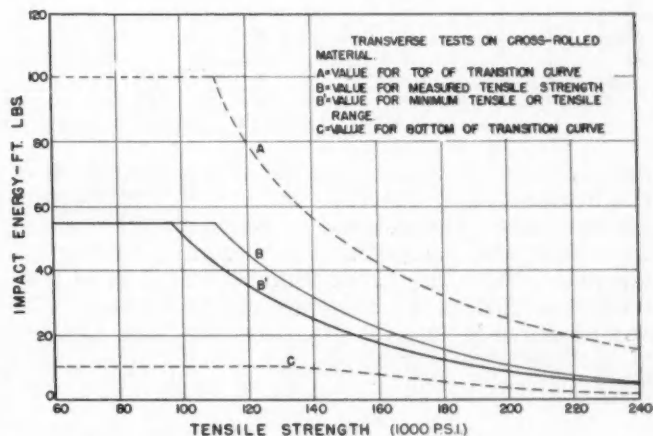

Fig. 5—Chart for determining V-notch Charpy impact energy requirements, for cross-rolled steel
2. Using this value of strength, determine from Figs. 5 or 6 the minimum impact energy that must be possessed by the steel at a temperature which is determined in step 5 below.
to prevent the initiation of a brittle crack, it is not necessary that the Charpy test specimen be fully tough at the equivalent Charpy temperature. In the method proposed by Watertown Arsenal Laboratory, an impact energy halfway between the values of the fully tough and the completely brittle conditions is chosen as adequate for the application. As shown in Figs. 5 and 6, curves of the fully tough *A* and fully brittle *C* conditions in the V-notch Charpy impact test versus hardness or tensile strength have been prepared from existing data covering the impact properties of wrought and cast steel, and the midpoint curves *B* obtained from these. The *B* curves show the impact energy that should be obtained for a *measured* tensile strength. If Figs. 5 and 6 are used to determine the expected energy for a specified *minimum* strength, the actual strength will ordinarily be 10,000–15,000 psi above the minimum, and a correspondingly lower energy should be permitted. Curve *B'* (obtained by shifting curve *B* 15,000 psi downward) should then be used. If, as is often recommended, yield strength rather than tensile strength is controlled, conversion may be made by Fig. 4.
An example of the suggested method for determining specification requirements is as follows: Suppose the part must have a minimum tensile strength of 120,000 psi, the load is applied in 0.1 sec, the minimum temperature of service is -30 F, and transverse properties are of interest. Fig. 5 (curve *B'*) shows that for a minimum tensile strength of 120,000 psi, the appropriate impact energy is 35 ft.-lb. When 120,000 psi is divided by the time 0.1 sec, the stress rate  $\dot{\sigma}$  is found to be  $1.2 \times 10^6$  psi per sec. Fig. 7 shows for this stress rate and a service temperature of -30 F at the recommended test temperature of -10 F. The specification would then read: